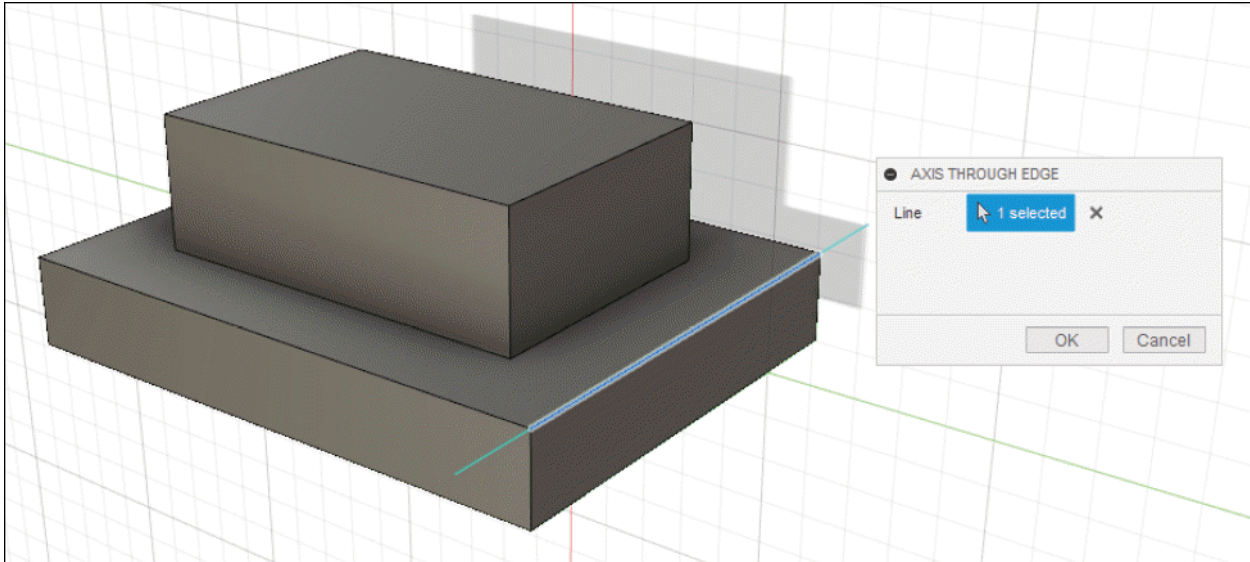

Figure-117. Preview of axis through edge
- Click on desired edge of model to create the axis; refer to Figure-117. Preview of axis will be displayed.